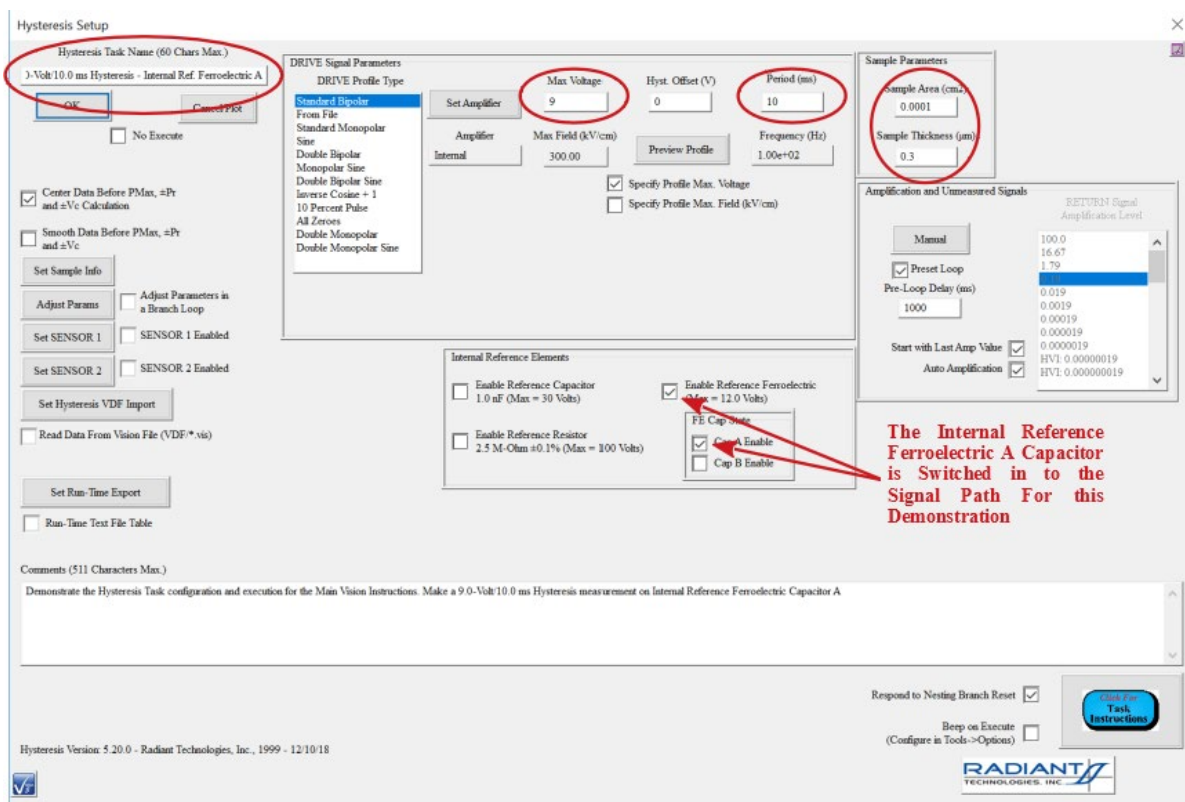

Figure 6 - Hysteresis Task Basic Configuration
1. The measurement begins with the user configuring the Task's measurement parameters (**Figure 6**).